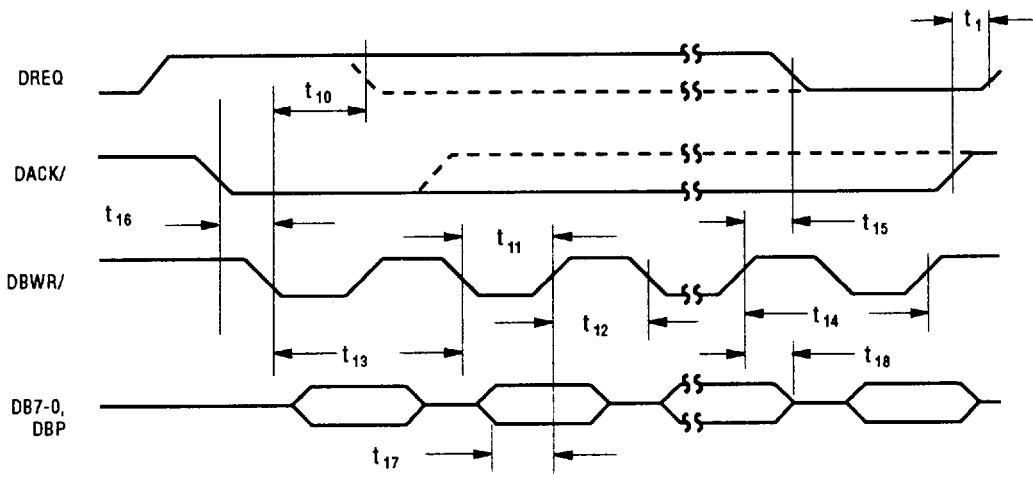

Figure 6-20: Burst Mode DMA Write (Non-Multiplexed Mode)
6. Either DACK/ or DBWR/ may toggle during a burst write. Timings are shown for DBWR/ toggling; however, DACK/ and DBWR/ may be interchanged in Figure 6-20 and Table 6-17.